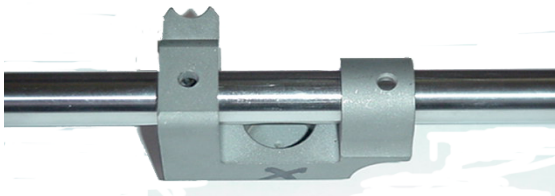
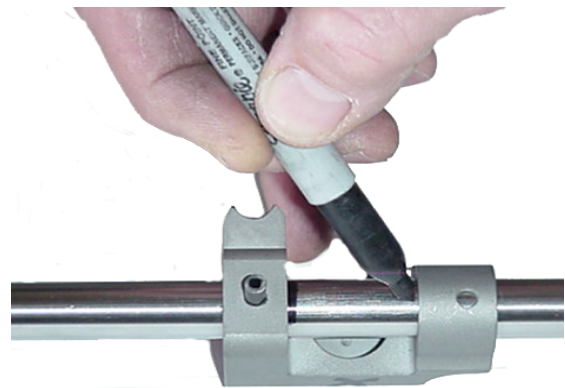

FIG 3
FIG 4
4. After you have drill through the rail (FIG 3) then use a felt marker and mark both inside walls of the socket part on the rail so you will know where to cut the rail. FIG 4